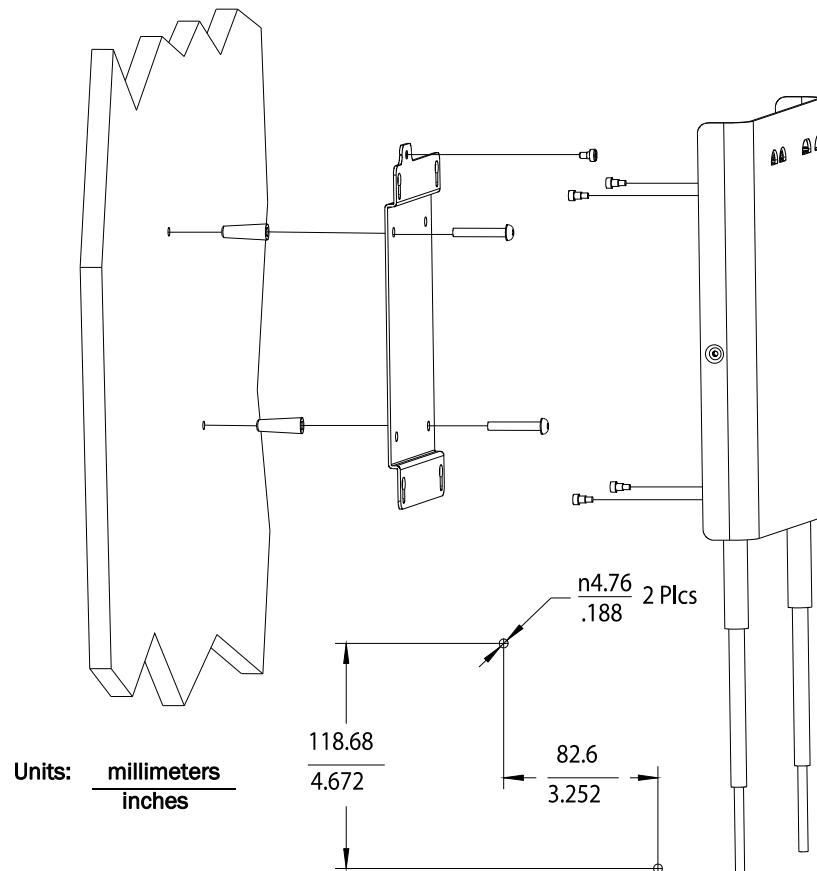

Figure 2-6: Mounting the IntelliVue Smart-hopping 1.4 GHz Core AP to a Wall (CA Earthquake Rated)
1. Using a 3/16-inch drill bit, drill two pilot holes 0.188 inches (5 mm) in diameter at the locations shown in Figure 2-6.
3. Secure the quick release wall plate to the wall by screwing a supplied #6 x 1 1/4 inch self-tapping screw through the wall plate into each screw anchor (or pilot hole) as shown in Figure 2-6.
4. Using a 5/64-inch (2 mm) Allen (i.e., hexagonal) wrench, secure the four supplied M3 X 0.5 hex-head shoulder screws to the back of the Core AP as shown in Figure 2-6. Torque-tighten each shoulder screw to 8-inch lbs.